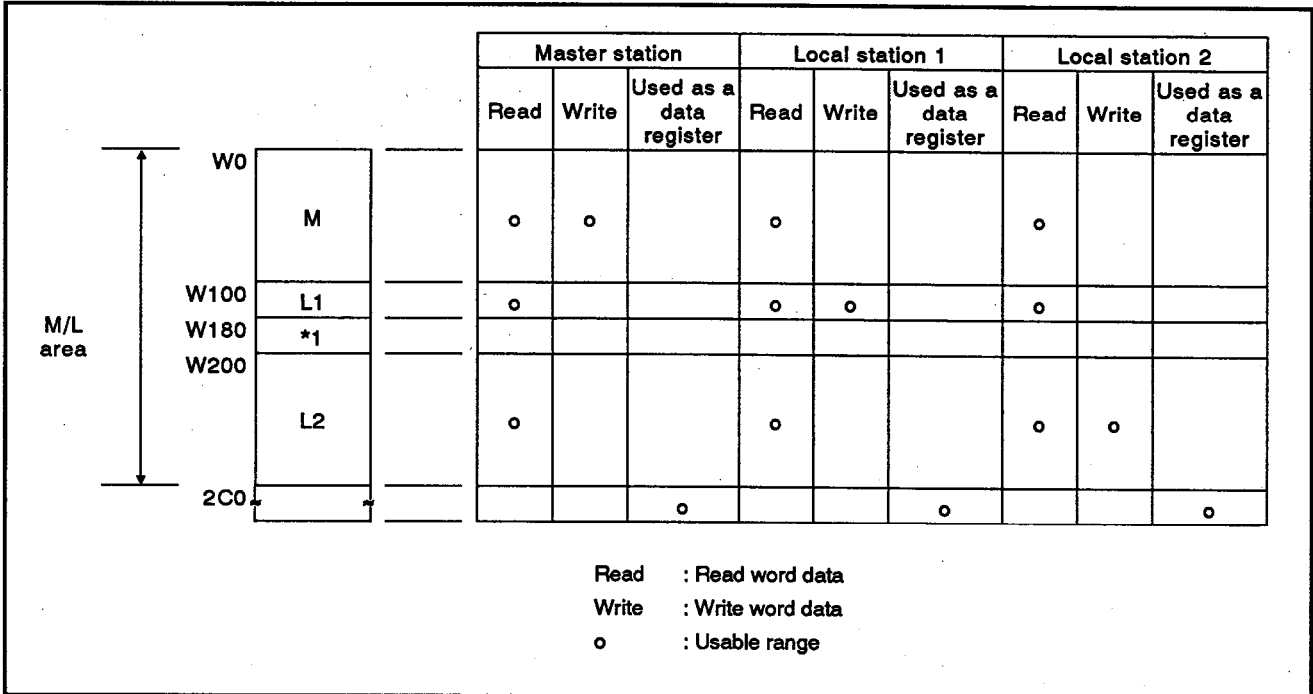

Fig. 7.6 Link Register (W) Allocation Example
(b) In Fig. 7.6, the vacant area marked with *1 cannot be used as a data register (D) by the master station and local stations.
(3) Allocating inputs (X) and outputs (Y)